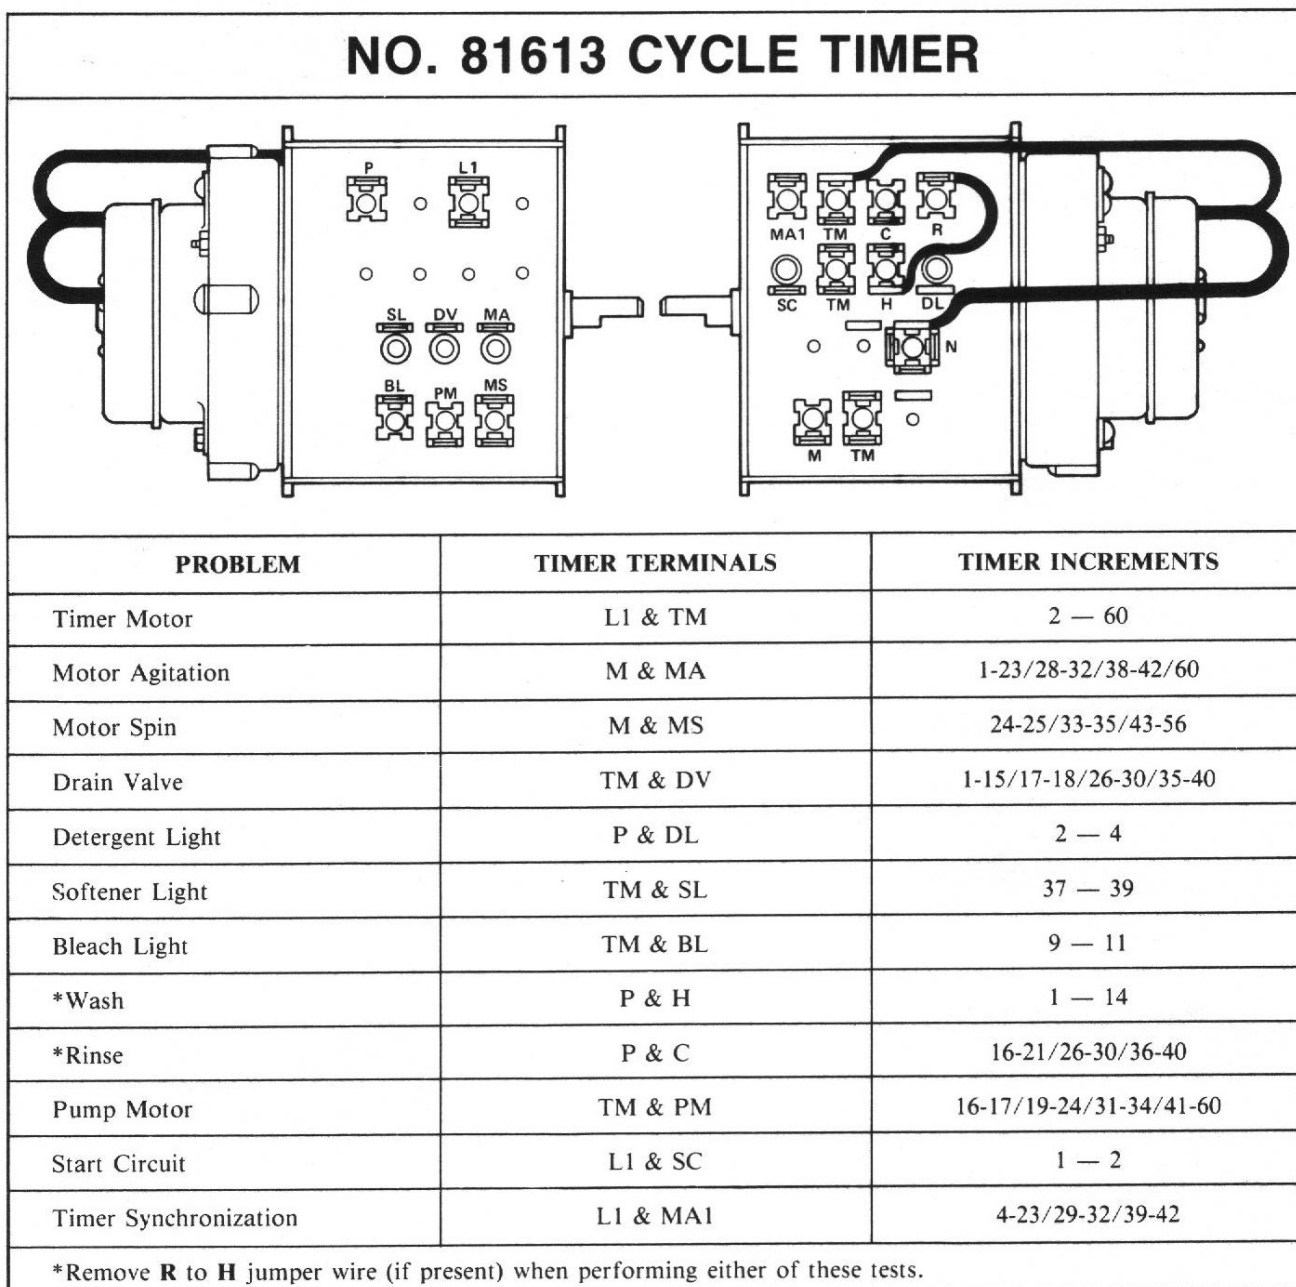

Figure 56
- Apply meter probes to timer terminals indicated in Figure 56 or 57 for continuity check.